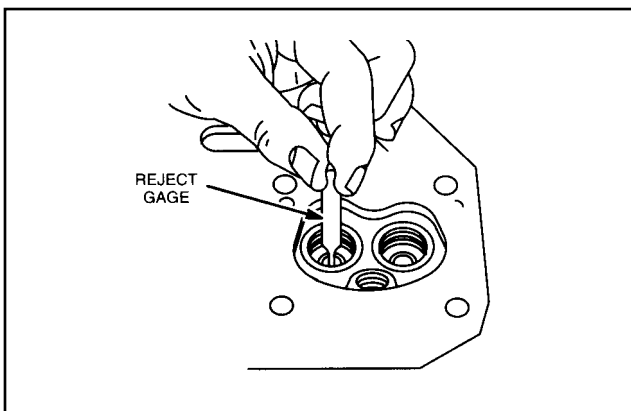

Fig. 13 - Check Valve Guide Bushing
2. Check valve guide bushings for wear using reject gauge, (Briggs & Stratton P/N 19381), Fig. 13.